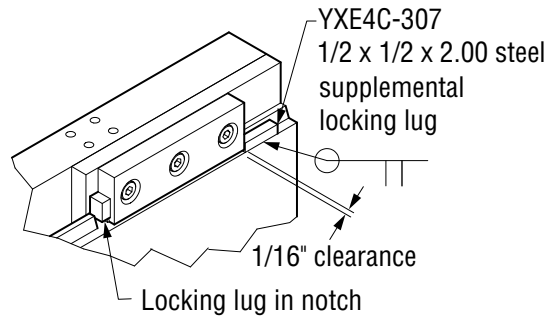

Figure 4-4, Locking Lug
8. Weld on the supplemental locking lug that is supplied with the attachment, (two pieces of 1/2 x 1/2 x 2.00 steel included with the attachment) with either E-6011 or E-6013 welding rod, or equivalent, on each side of the truck carriage. (Figure 4-4)